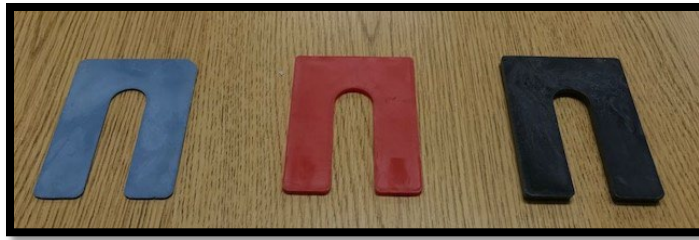

Figure 9: Horseshoe Shims
- A) Plastic horseshoe shims as shown in *figures 9 & 11* must be used for supporting the door jambs. Various thicknesses will be needed to provide adequate support. Adequate support is achieved when the shims are tightly compressed in place without distorting the frame.